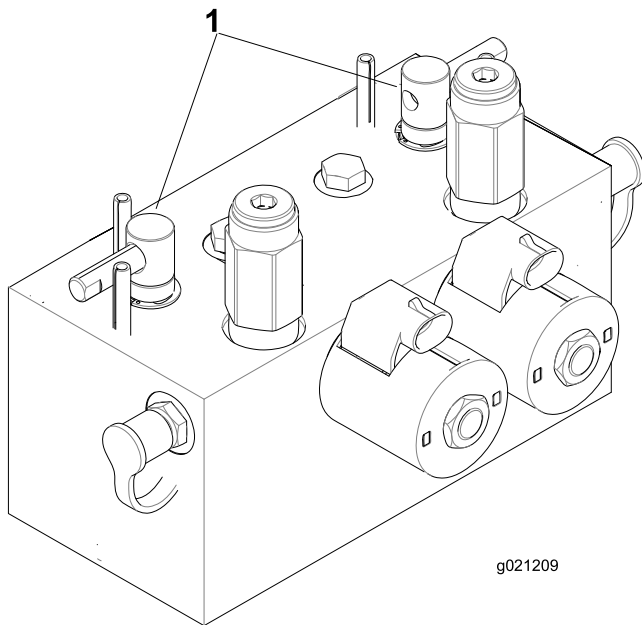

Figure 76
2. Unlock and raise the seat to expose the backlap levers (Figure 76).
5. Select either front, rear, or both backlap levers to determine which units to backlap (Figure 76).